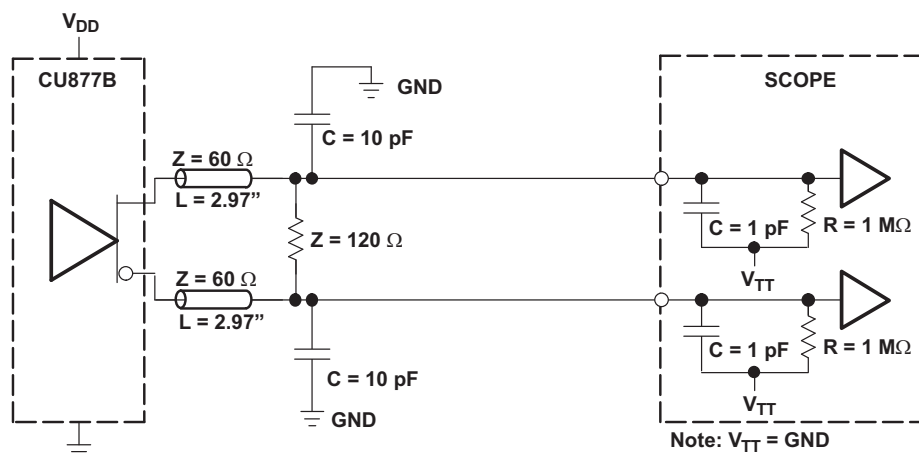
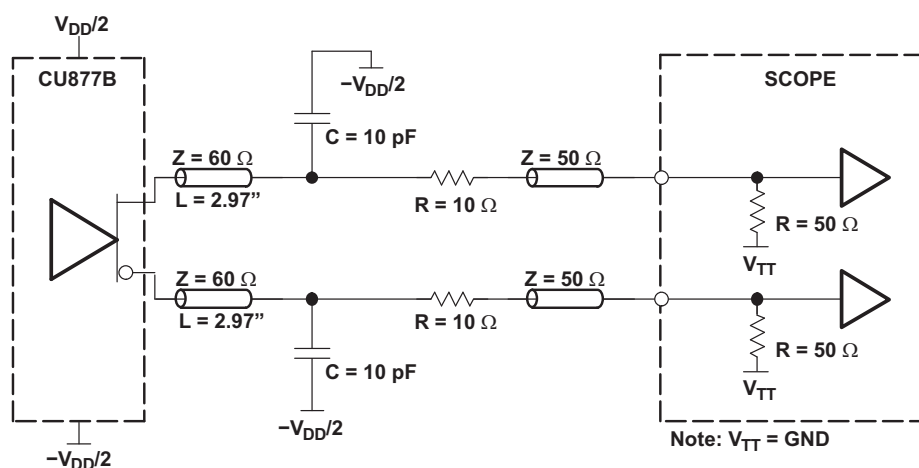

Figure 2. Output Load Test Circuit 1
Figure 3. Output Load Test Circuit 2
- (1) There are two different terminations that are used with the following tests. The load/board in Figure 2 is used to measure the input and output differential-pair cross voltage only. The load/board in Figure 3 is used to measure all other tests. For consistency, equal length cables must be used.
- (2) This parameter is specified by design and characterization.
- (3) Phase static offset time does not include jitter.
- (4) Period jitter, half-period jitter specifications are separate specifications that must be met independently of each other.
- (5) The output slew rate is determined from the IBIS model with a 120- Ω load only.
- (6) To eliminate the impact of input slew rates on static phase offset, the input skew rates of reference clock input CK and \overline{CK} and feedback clock inputs FBIN and \overline{FBIN} are recommended to be nearly equal. The 2.5-V/ns skew rates are shown as a recommended target. Compliance with these typical values is not mandatory if it can adequately shown that alternative characteristics meet the requirements of the registered DDR2 DIMM application.
- (7) Output differential-pair cross voltage specified at the DRAM clock input or the test load.